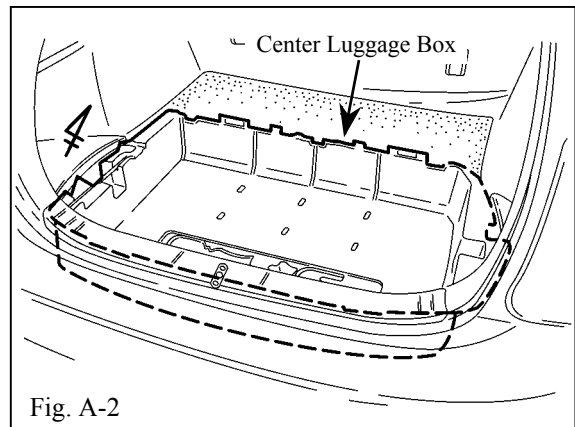

Fig. A-2
2. Lift up the center luggage box (deck floor box rear). (Fig. A-2)